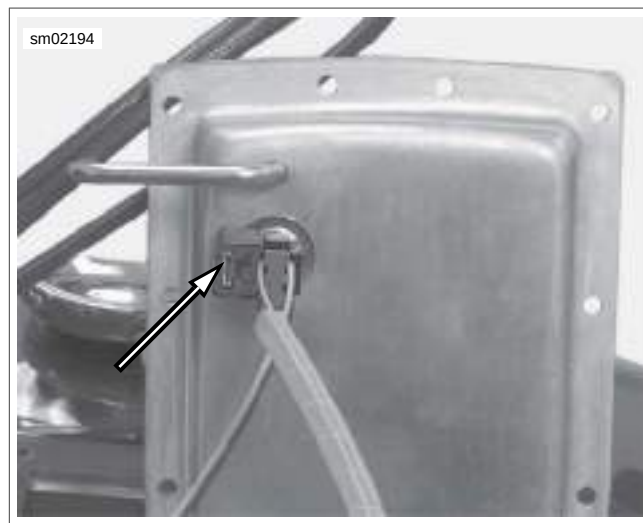

Figure 4-37. Connector Tab
10. See Figure 4-37. Depress tab and remove fuel pump/sender wiring from top plate. Remove top plate.